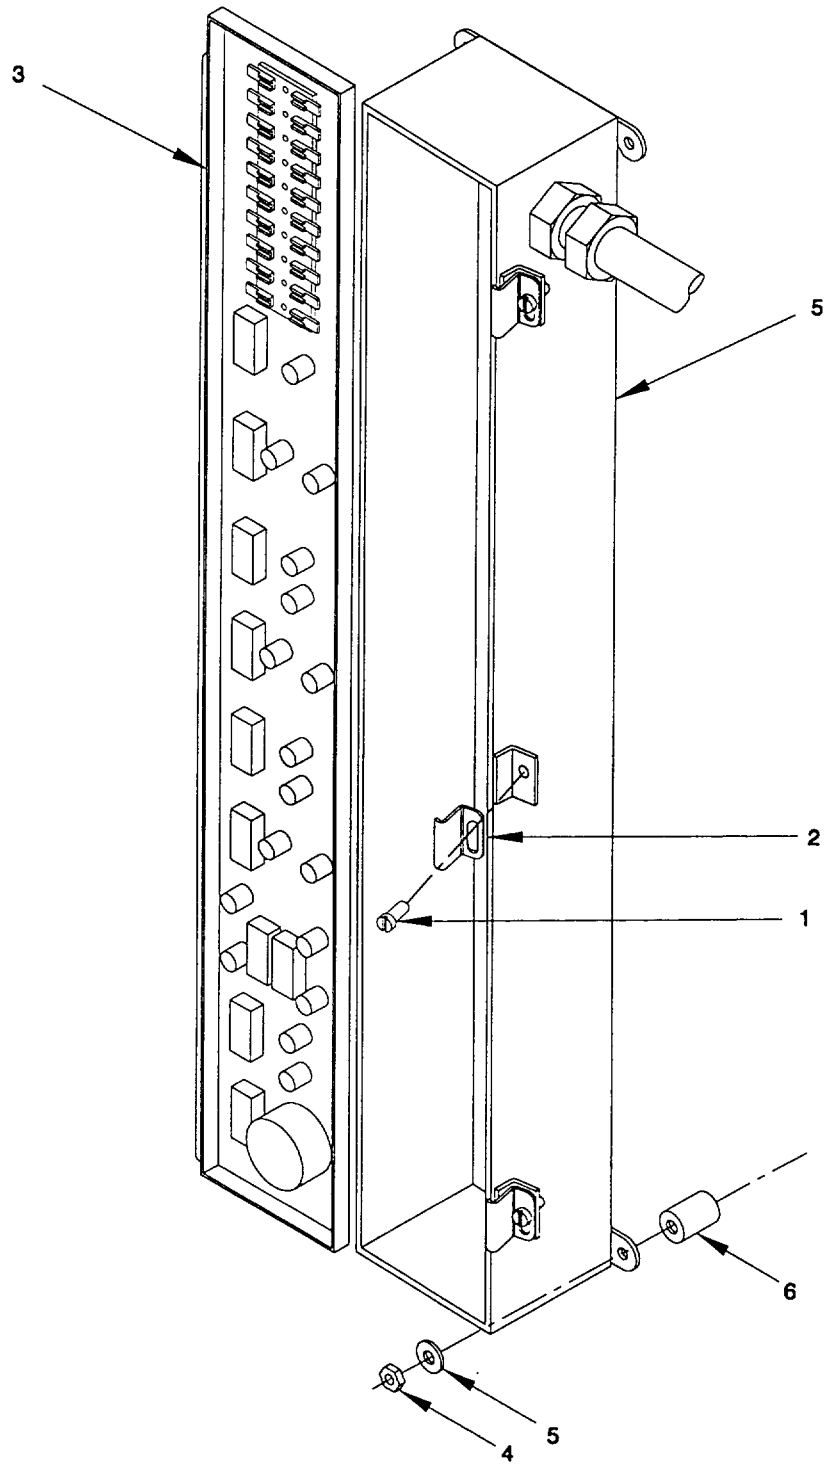

Figure 2-153. Mast Enclosure, Remove/Install.
- a. Remove. (figure 2-153)
- (1) Remove three screws (1) and three clamps (2) securing door (3) to mast enclosure.
- (2) Open enclosure door (3) to access interior of enclosure.
- (3) Disconnect electrical wiring to enclosure and tag OUT OF SERVICE.
- (4) Remove four sets of hardware including a washer (4), a hex nut (5) and a tubing spacer (6) securing mast enclosure (7) to hull.
- (1) Inspect all electrical components for corrosion, deterioration, dirt, condensation, loose hardware or electrical wiring connections, or other damage. Repair is limited to replacement of components.
- (2) Remove any dirt or condensation with a clean, lint-free cloth.
- c. Install. (figure 2-153)
- (1) Position mast enclosure (7) against hull and secure with tubing spacer (6), washer (4), and hex nut (5).
- (2) Connect electrical wiring to mast enclosure. Refer to Appendix G.
- (3) Close mast enclosure door (3) and secure with three clamps (2) and three screws (1).